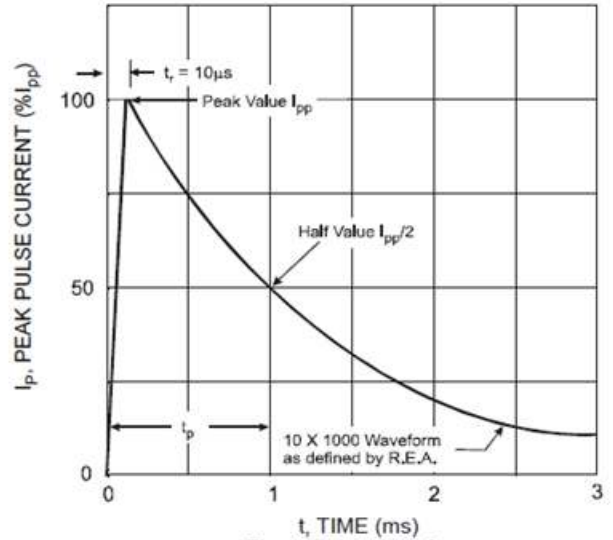

Fig. 4 Pulse Waveform
10. Per 10 x 1000μs waveform. See Figure 4.